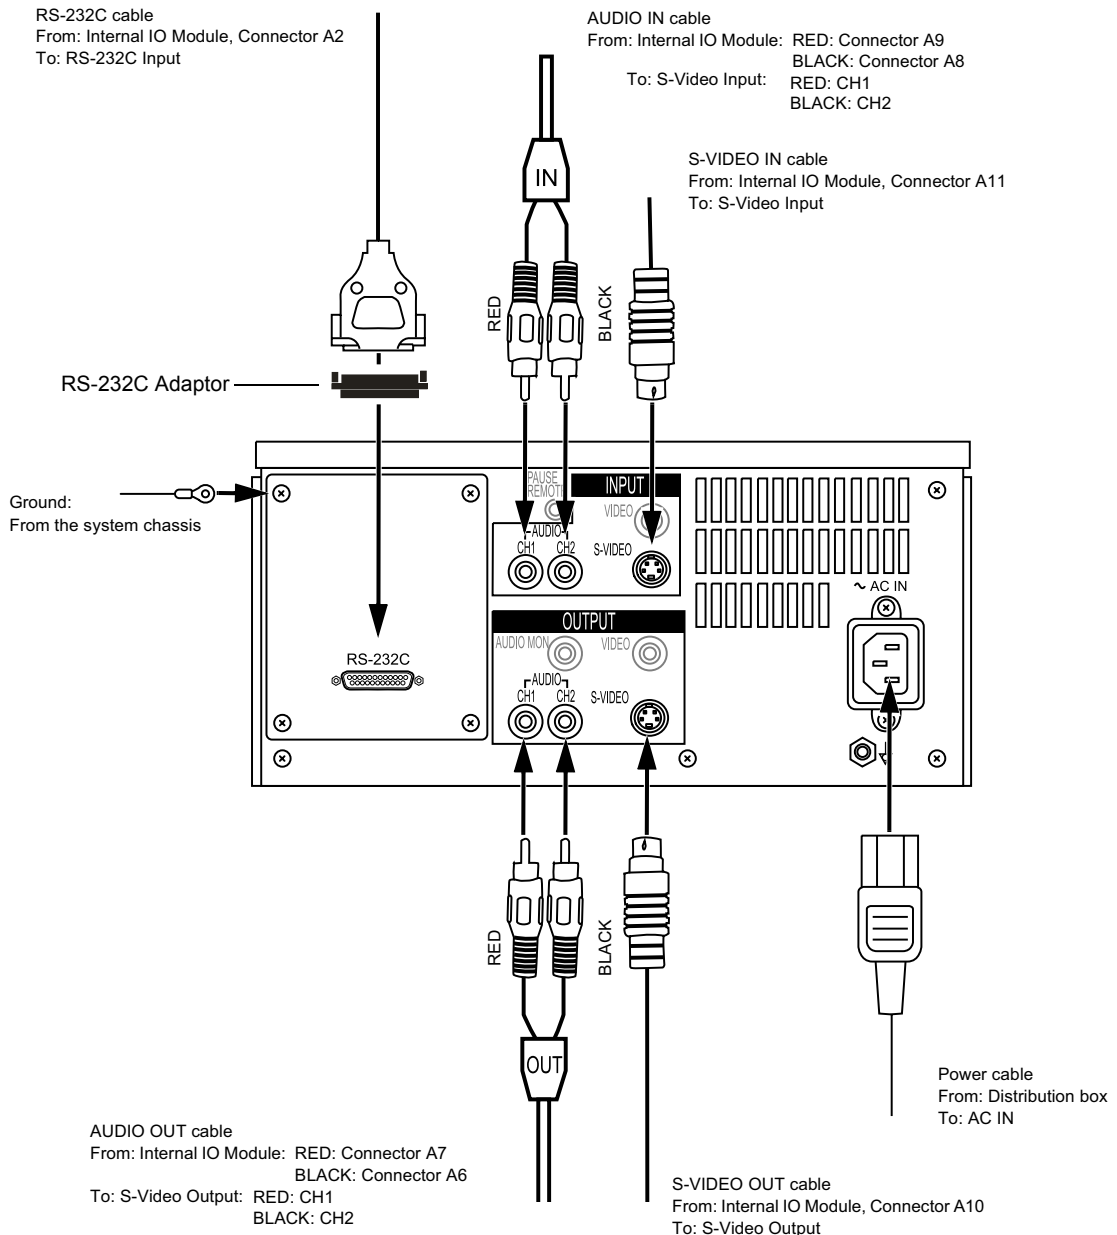

Figure 8-150 Panasonic VCR Connection Cables
- 4.) Disconnect the RS-232C cable (with adaptor), the Audio and S-Video IN and OUT cables, and the Power cable from the rear of the VCR as shown in Figure 8-150 on page 8-153.